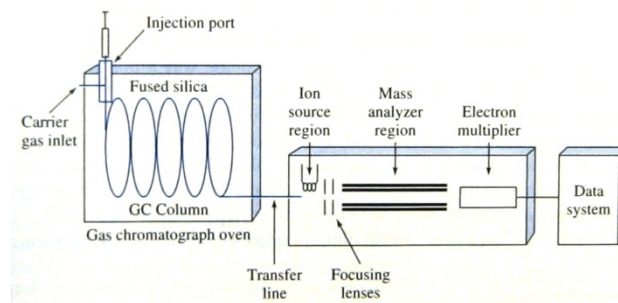

Figure 1. GC/MS schematic
Gas chromatography (GC) is one of the most widely used techniques for qualitative and quantitative analysis. It involves repeated distribution or partitioning of analytes between two different phases, mobile gaseous phase and liquid or solid stationary phase held in a column. In gas-liquid chromatography (GLC) a liquid substance serves as a stationary phase and its name is usually shortened to gas chromatography (GC). GLC is based on partitioning of the analyte between a gaseous mobile phase and a liquid phase immobilized on the surface of an inert solid packing or on the walls of capillary tubing. Gas-solid chromatography (GSC) is based on solid stationary phase in which retention of analytes occurs because of physical adsorption. In performing the chromatographic separation, the sample is vaporized and injected onto the head of chromatographic column. Elution is brought about by the flow of an inert gaseous mobile phase. A schematic of a gas chromatographic system with a mass spectrometer detector is shown in Figure 1. The basic gas chromatograph consist of the carrier gas (mobile phase) supply, the inlet or injector, the column, the detector and the data system (not shown in the Figure 1).
**Detection systems.** The commonly used detectors in gas chromatography are: the flame ionization detector (FID), the thermal conductivity detector (TCD), and electron capture detector (ECD). These detectors are considered universal because they are sensitive to almost every compound that elutes from the column and they give response signal which is proportional to the analyte concentration. However these detectors do not provide any structural information of an analyte and the compound identification has to proceed with the use of internal calibration based on retention times. One of the most powerful detectors which can provide definite identification of the separated compounds is the mass spectrometer. It measures a mass to charge ration ( $m/z$ ) of ions that have been produced from the sample. However, most of the ions are singly charged ( $z = 1$ ) and it is common to speak of measuring the mass of ions when mass-to-charge ratio is actually measured. The combination of the gas chromatography and mass spectrometry is known as GC/MS (Figure 1).